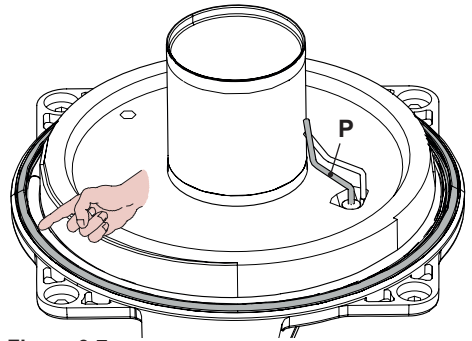
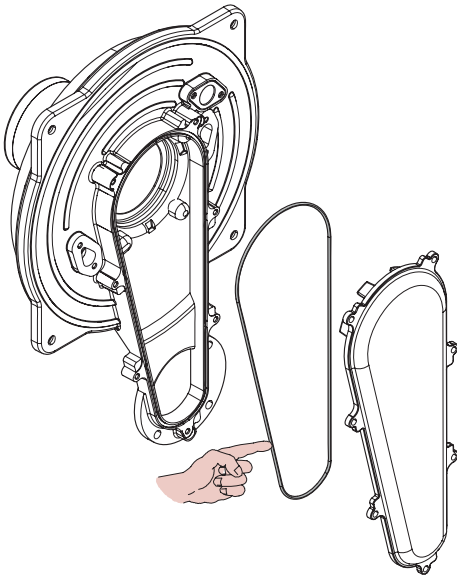

Figure 9.7
Figure 9.8
- The silicon gasket on the front panel of the combustion chamber Figure 9.7 and the air/gas duct cover gasket (Figure 9.8) must be changed if worn and, in any case, replaced every 2 years.
- The ignition/detection electrode P in Figure 9.7 also serves as a sensor for correctly draining the condensate. If this electrode comes into contact with the condensate water in the combustion chamber, the boiler goes into safety lock-out. Replace the insulation where wet or worn.